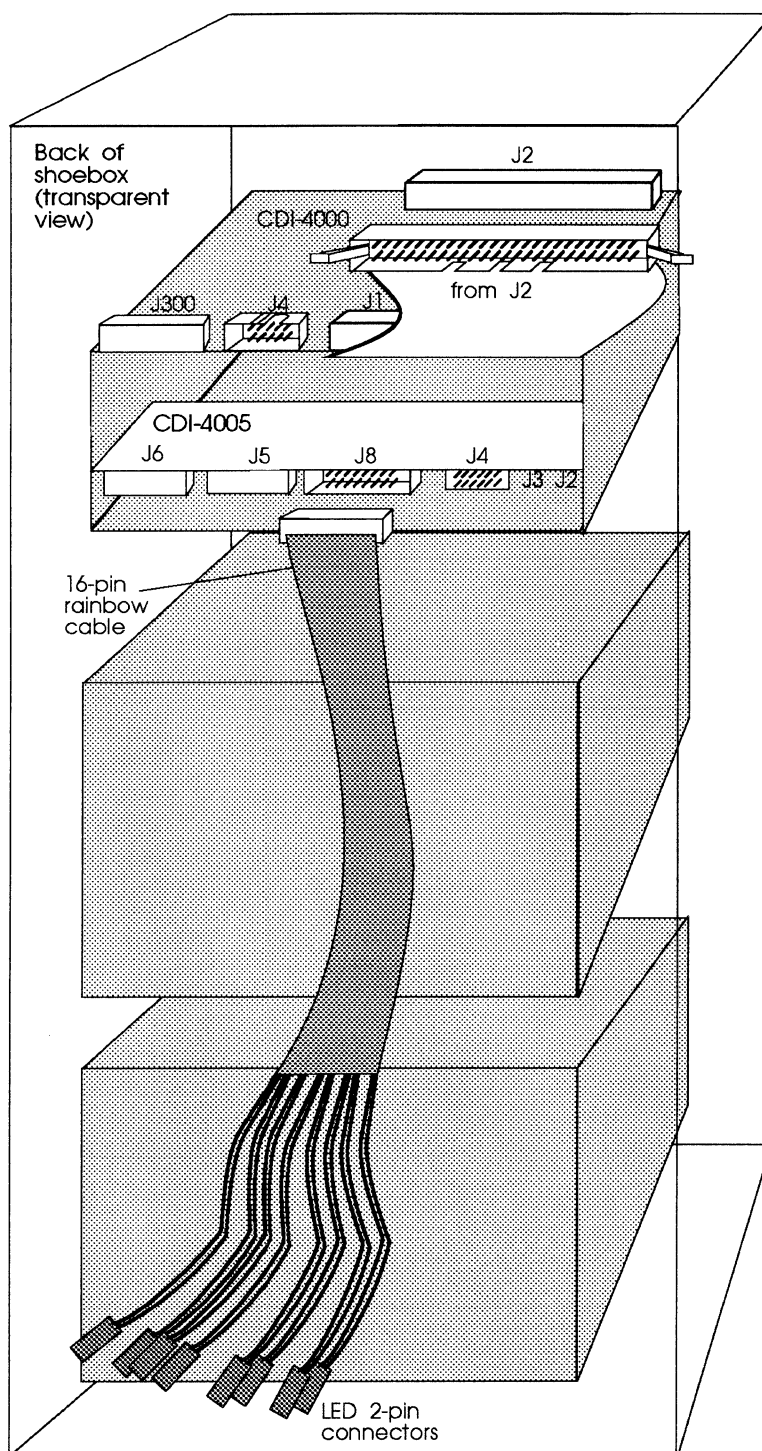

Figure 7-7: Connecting rainbow cable to J8
- 16 Locate the rainbow cable with eight 2-pin socket connectors. Connect the 16-pin socket connector to J8 on the back of the CDI-4005. Align brown wire of cable to position "0" of J8, labeled "Device LED." See Figure 7-7.
- 16 Locate the rainbow cable with eight 2-pin socket connectors. Connect the 16-pin socket connector to J8 on the back of the CDI-4005. Align brown wire of cable to position "0" of J8, labeled "Device LED." See Figure 7-7 for reference.